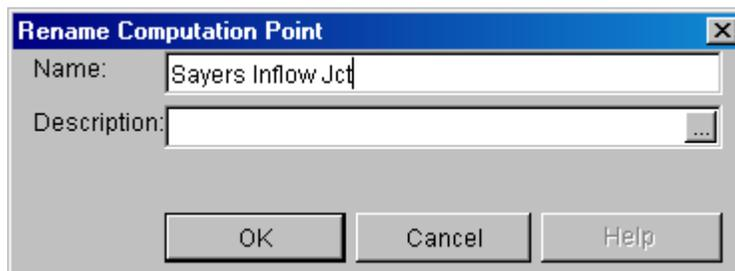

Figure 6.27 Rename Dialog Box - Computation Point
4. Use the **Rename** dialog box (Figure 6.27) to edit the name and description. Click the  button to access the **Enter Description** dialog box for longer descriptions.